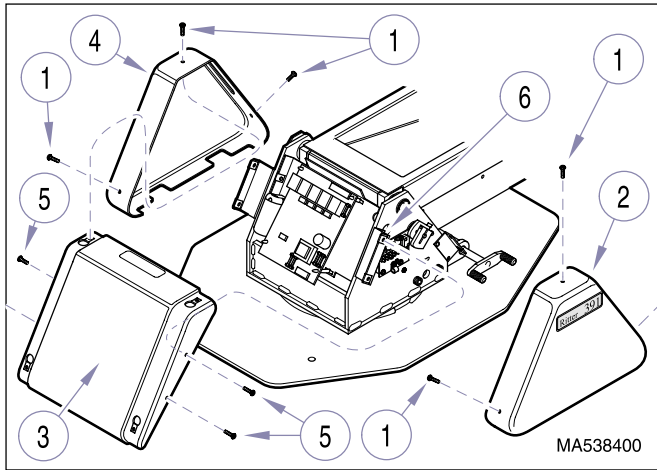

Figure 4-22. Covers Removal / Installation
- (1) Unplug chair power cord from wall outlet receptacle.
- (2) Remove three screws (1, Figure 4-22) and R.H. base cover (2) from center base cover (3).